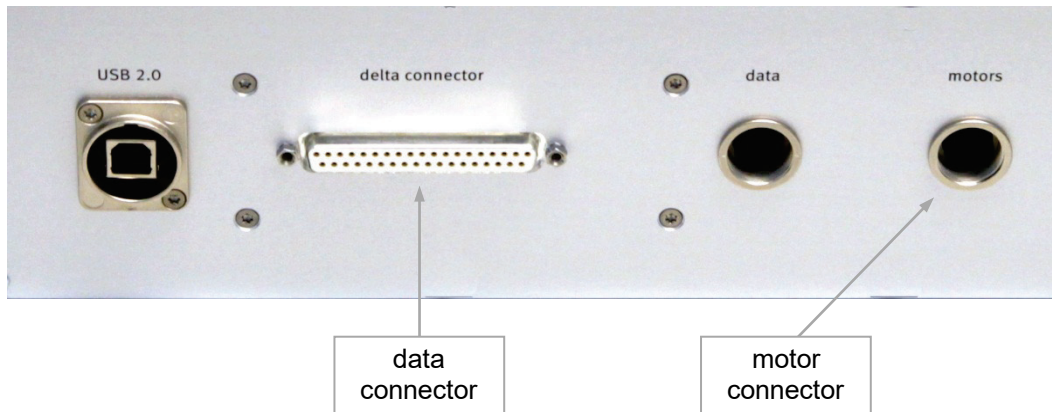

figure 3 – connecting the data and motor cables to the controller back plate
- on the controller back plate, connect the data cable and motor cable to their respective connectors (figure 3).